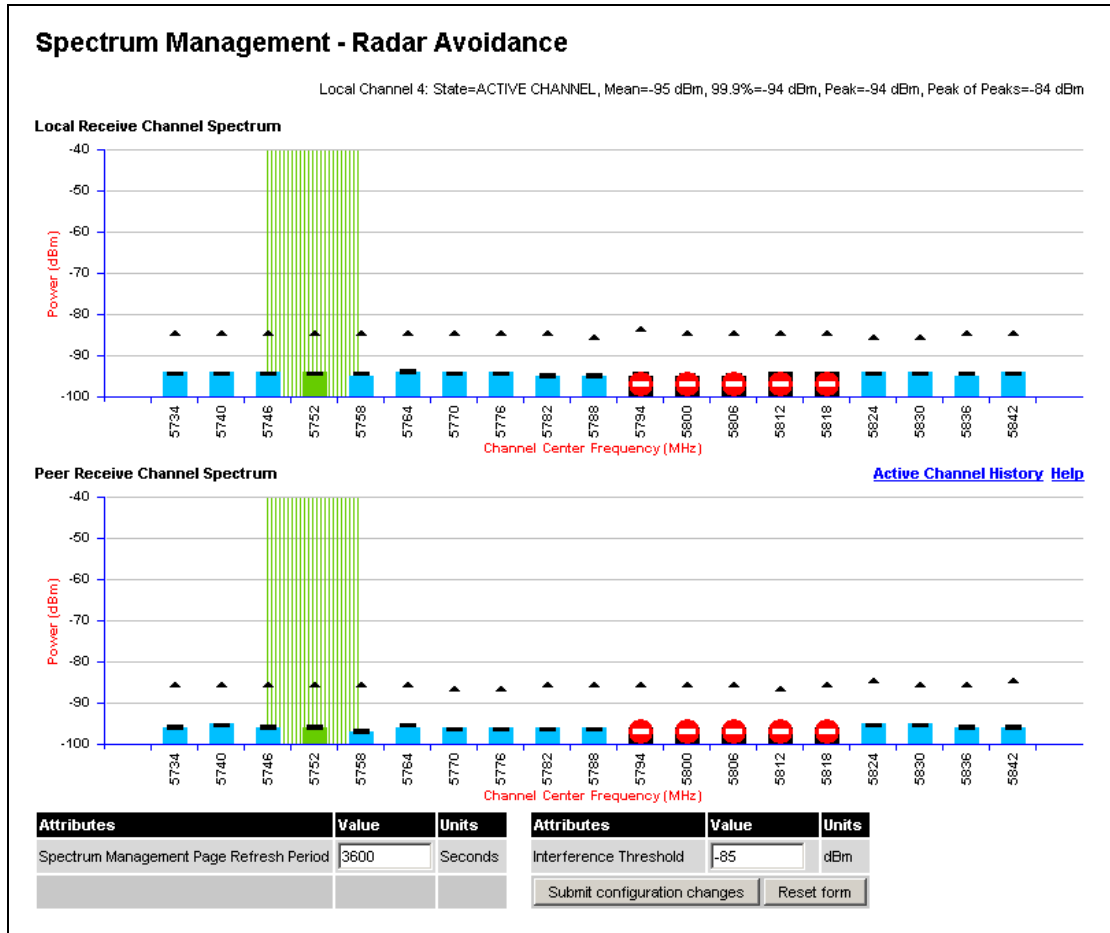
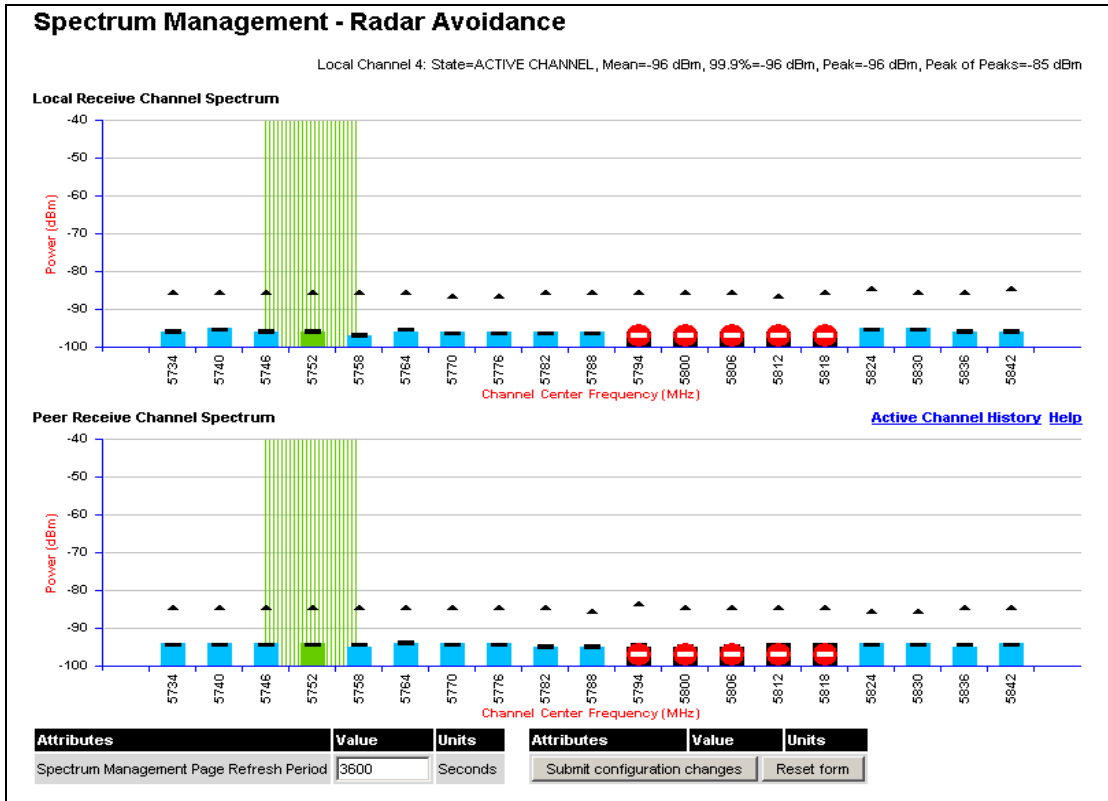

Figure 62 - Spectrum Management Master Screen with Operational Restrictions
Figure 63 - Spectrum Management Slave Screen with Operational Restrictions
- The words “Radar Avoidance” are appended to the “Spectrum Management” title at the top of the screen. See Figure 62 and Figure 63.
- The only controls available to the master are the Interference Threshold attribute. This has no affect on the operation of the wireless link and will only affect the generation of the channel spectrum graphics. See Figure 62.
- A channels marked with a 'no entry' symbol with their associated statistics colored black are the prohibited channels. See Figure 62 and Figure 63. These channels are never used to host the wireless link, but interference measurements are still taken so that adjacent channel biases can be calculated correctly and so the user can see if other equipment is in use.